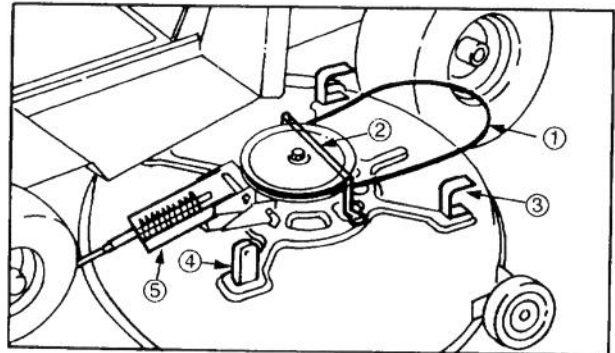

Figure 26
Check cutter blade every time rider is tipped on end. If lock nut holding blade is loose, tighten it to 45-60 ft-lb (61-81 N·m). If blade or sail (Fig. 26) at end of blade is worn, eroded, or cracked, replace the blade. Replace the blade if it is bent or out-of-balance. Always use genuine TORO replacement blades to assure safety and optimum performance. **NEVER USE WILL-FIT REPLACEMENT BLADES.**
4. Remove cotterpins from clevis pins on front hanger brackets. Hold front of cutting unit in place with one hand, to prevent falling, and remove clevis pins to lower cutting unit to ground. Pull rear hanger brackets off pins on rear suspension arms. Set height-of-cut control to highest position and slide cutting unit from under Rider (Fig. 26).
3. Loosen (1) mounting screw and remove (1) mounting screw securing belt guide to cutting unit. Pivot belt guide away from spindle pulley and remove belt. Visually inspect belt for wear or damage (Fig. 26).